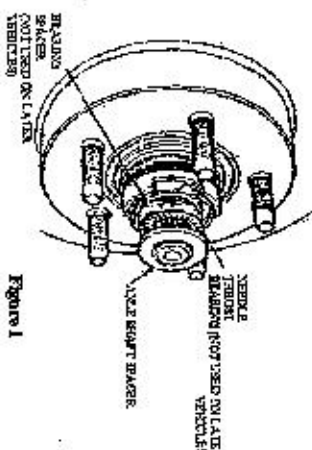

Figure 1
a) Remove the Axle Shaft Ring, Axle Shaft Spacer (splined), Needle Thrust Bearing (on earlier vehicles), and Bearing Spacer from the Axle (Figure 1).